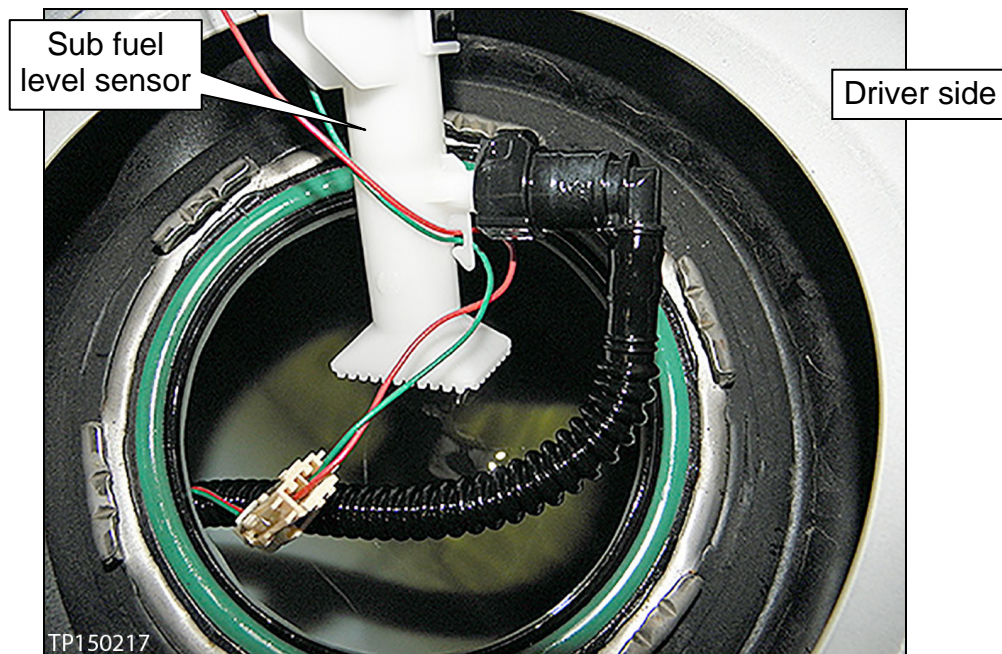

Figure 4
8. Lift the sub fuel level sensor out of the fuel tank (see Figure 4).